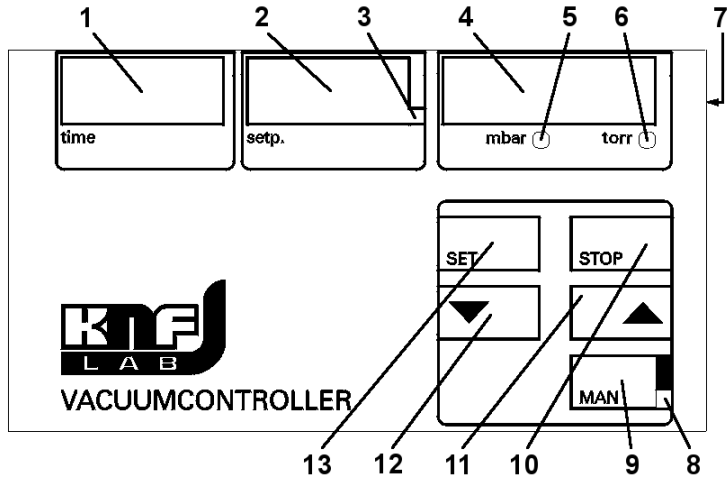

Fig. 18: Vacuum Controller
- Using the SET-Key (fig. 18/13), the current parameters are indicated.
- In the centre display (2), the expressed value is shown, i.e. „ P_1 “, „ P_2 “, „ t_A “ oder „ t_C “. In the right hand display (4), the actual value is shown.